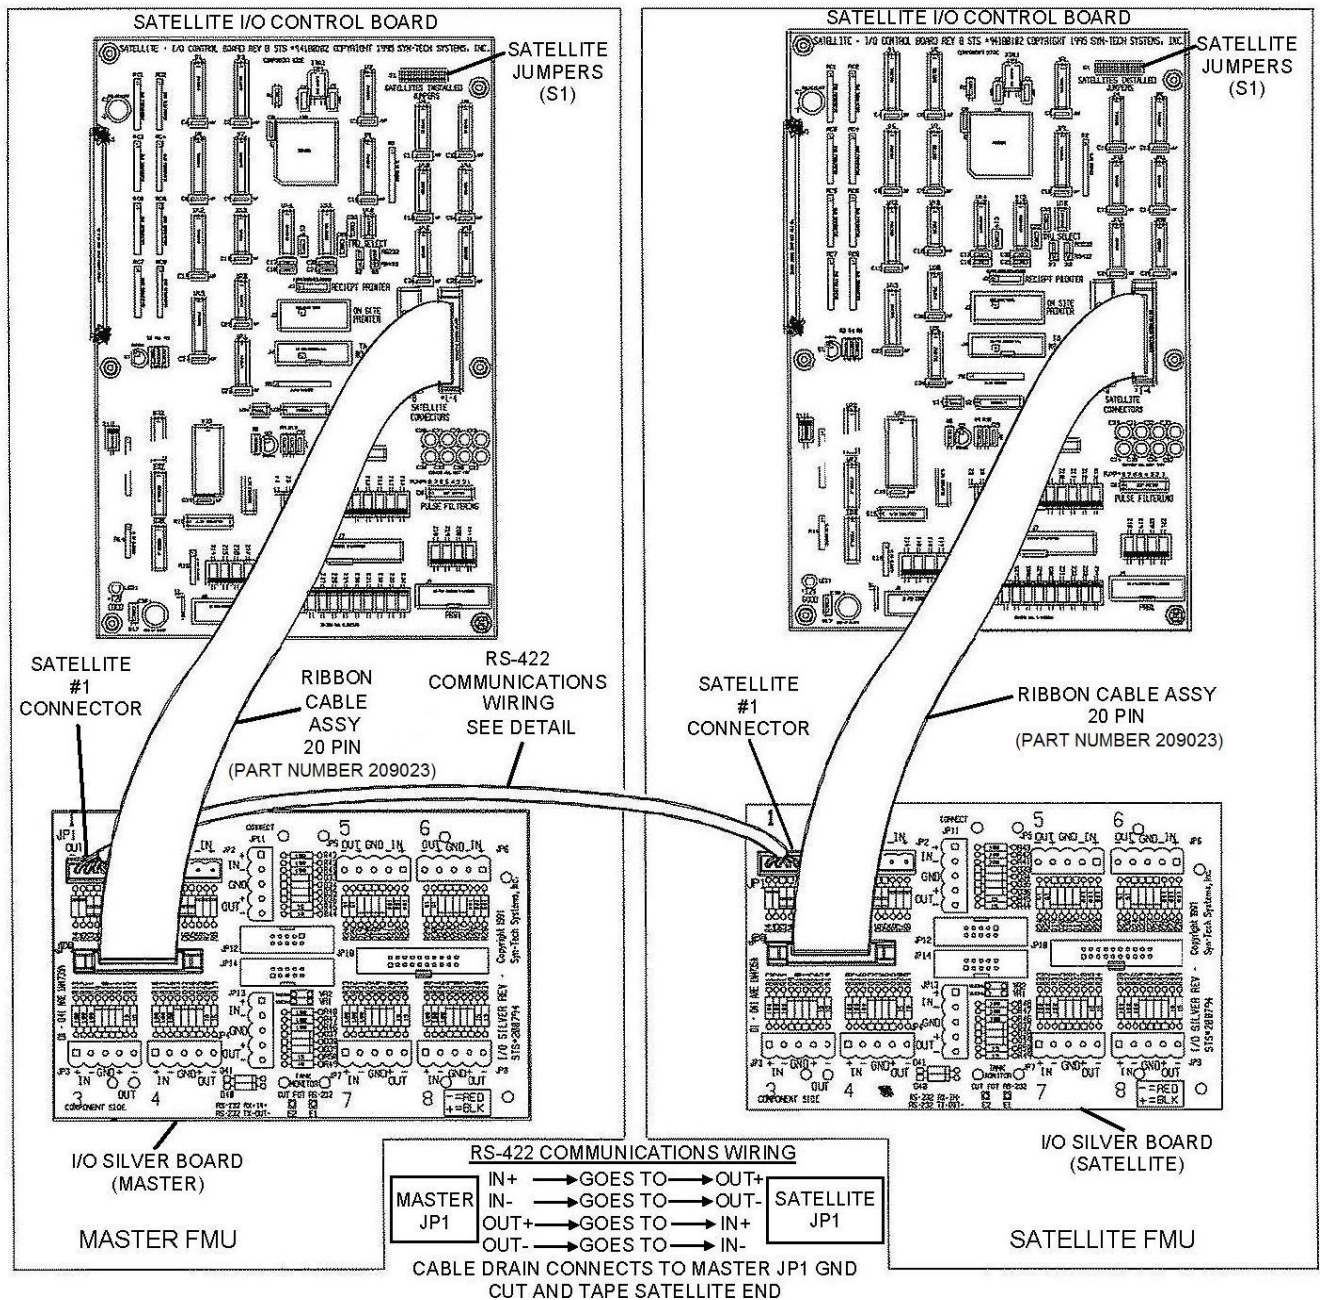
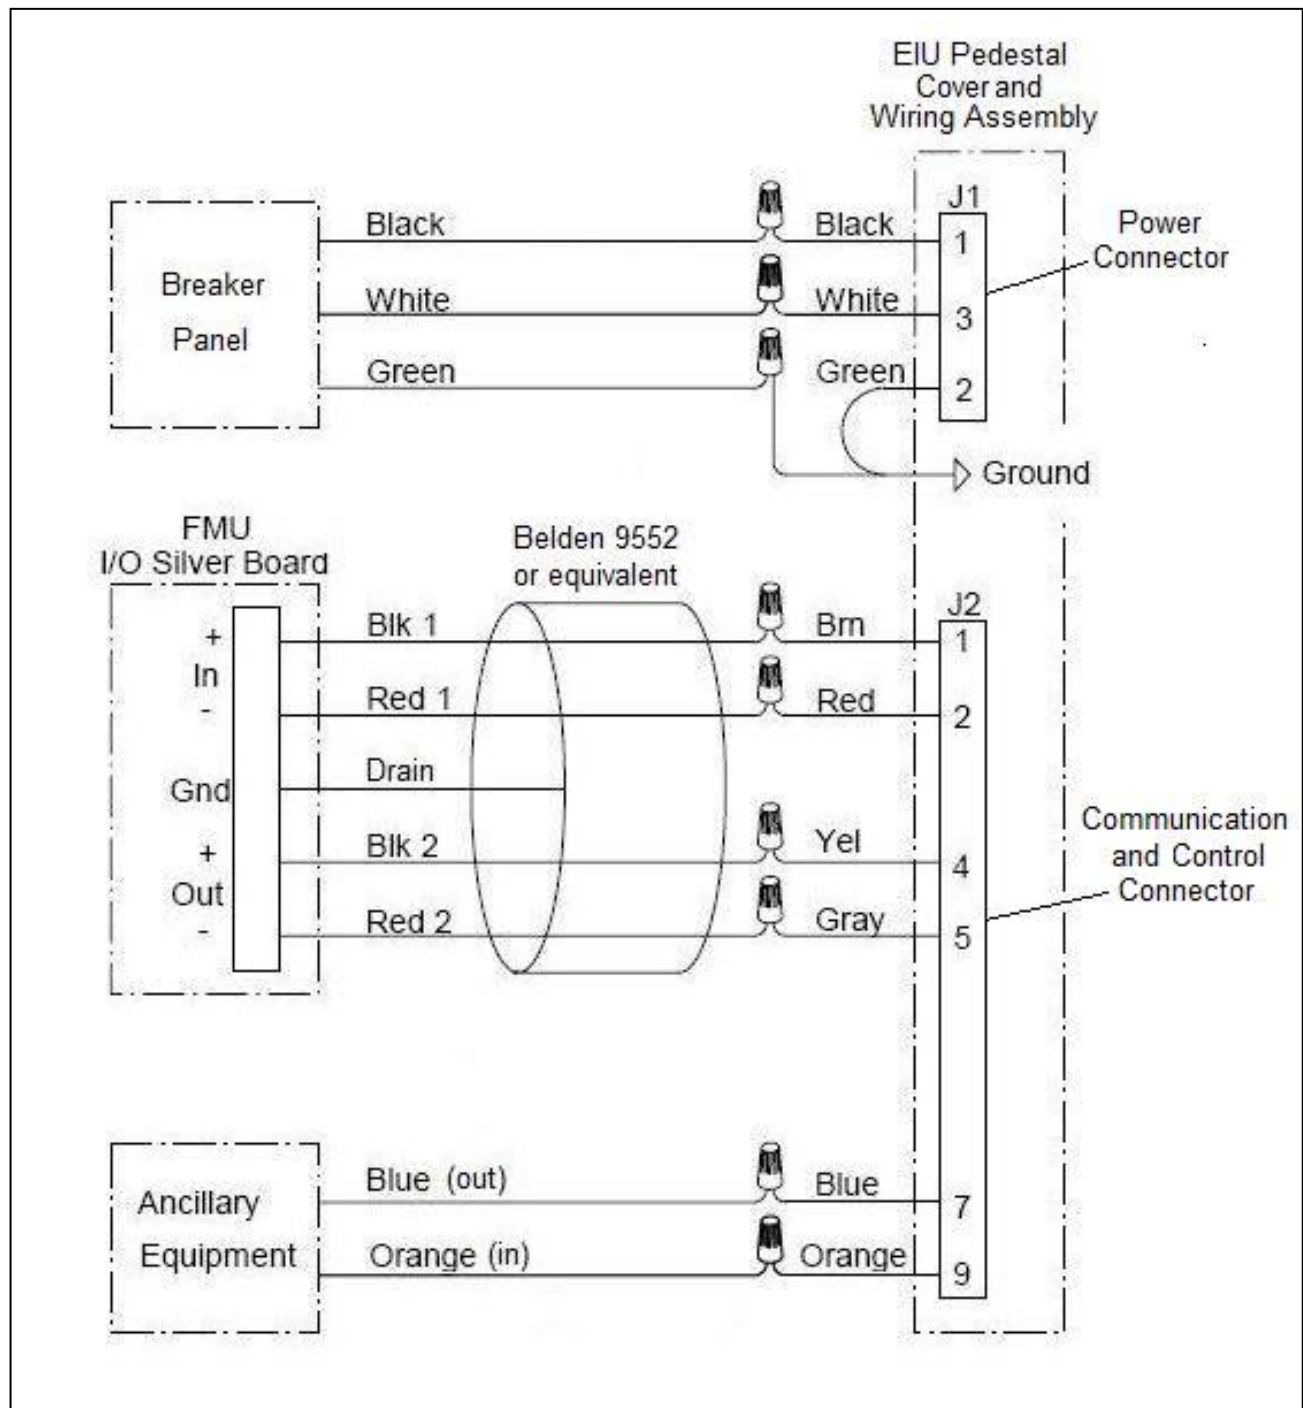

Figure 4-31. Satellite Connections
Figure 4-34. EIU Wiring
10. **Satellite Connections** (see Figure 4-31). Both master and satellite FMUs must be equipped with a Satellite Option (STS part number 200034A) to accept the wire terminations and provide the necessary internal interface cables. This option is standard equipment in each satellite FMU, but an extra price option in master FMUs. This option is not required with an EIU. EIUs have other provisions for connection to a master FMU. See Figure 4-34 to make an EIU connection.
- e. Note the **RS-422 COMMUNICATIONS WIRING** chart at the bottom of Figure 4-31, and make the cable connections in both FMUs leaving the cable drain disconnected at one end.
3. **Control of Accessory Controller.** Pull two 14 AWG THHN wires from the EIU to the accessory controller. The wiring diagram in Figure 4-34 calls out blue and orange, but any color may be used which are easily identifiable when making the wire connections. Ensure approximately 3 feet of excess wire is extending from the conduit to facilitate wire connections after EIU installation.
9. Position the Pedestal Cover and Wiring Assembly up to the Pedestal, then make the wire/cable connections with wire nuts in accordance with Figure 4-34. Figure 4-34 depicts wire colors that may not match the wire/cable in use. Note the wire colors connected to J2, pins 1, 2, 4, and 5. These wires must make specific pin connections to the I/O Silver Board in the Master FMU.
9. Refer to the wiring diagram in Figure 4-34, and the wire connections noted in step 9 under **Mounting the Pedestal**. Connect the Master FMU/EIU communications cable routed from the EIU Pedestal Cover and Wiring Assembly to a 5-pin connector of the I/O Silver Board receptacle selected in step 6: